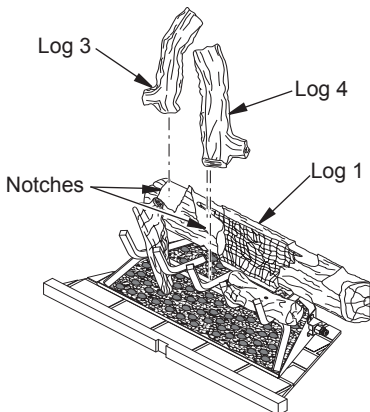
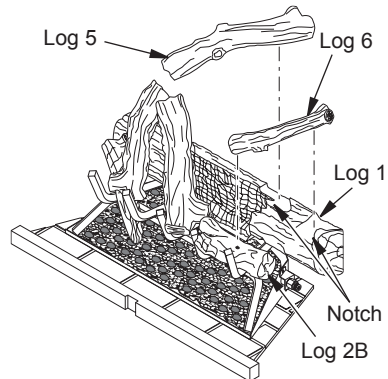
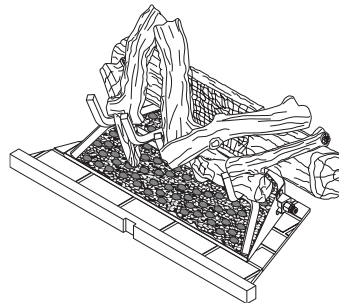

Figure 30 - Installing Logs 3 and 4
Figure 31 - Installing Logs 5 and 6
Figure 32 - Logs Installed for M42, M42P, VM42 and VM42P Models
3. Place log 3 into notch on top left of log 1, resting the lower end on the left two grate fingers (see Figure 30).
4. Place the upper end of log 4 into the notch on log 1 as shown in Figure 30. Rest the lower end of log 4 on the middle grate finger as shown in Figure 31.
5. Place the upper end of log 5 into the notch on the top inner right of log 1 (see Figure 31). Rest the lower end of log 5 on the middle grate finger as shown in Figure 32.
6. Place log 6 into the notch on the top right of log 1 (see Figure 31). Rest the lower end of log 6 on top of log 2B (see Figure 32).